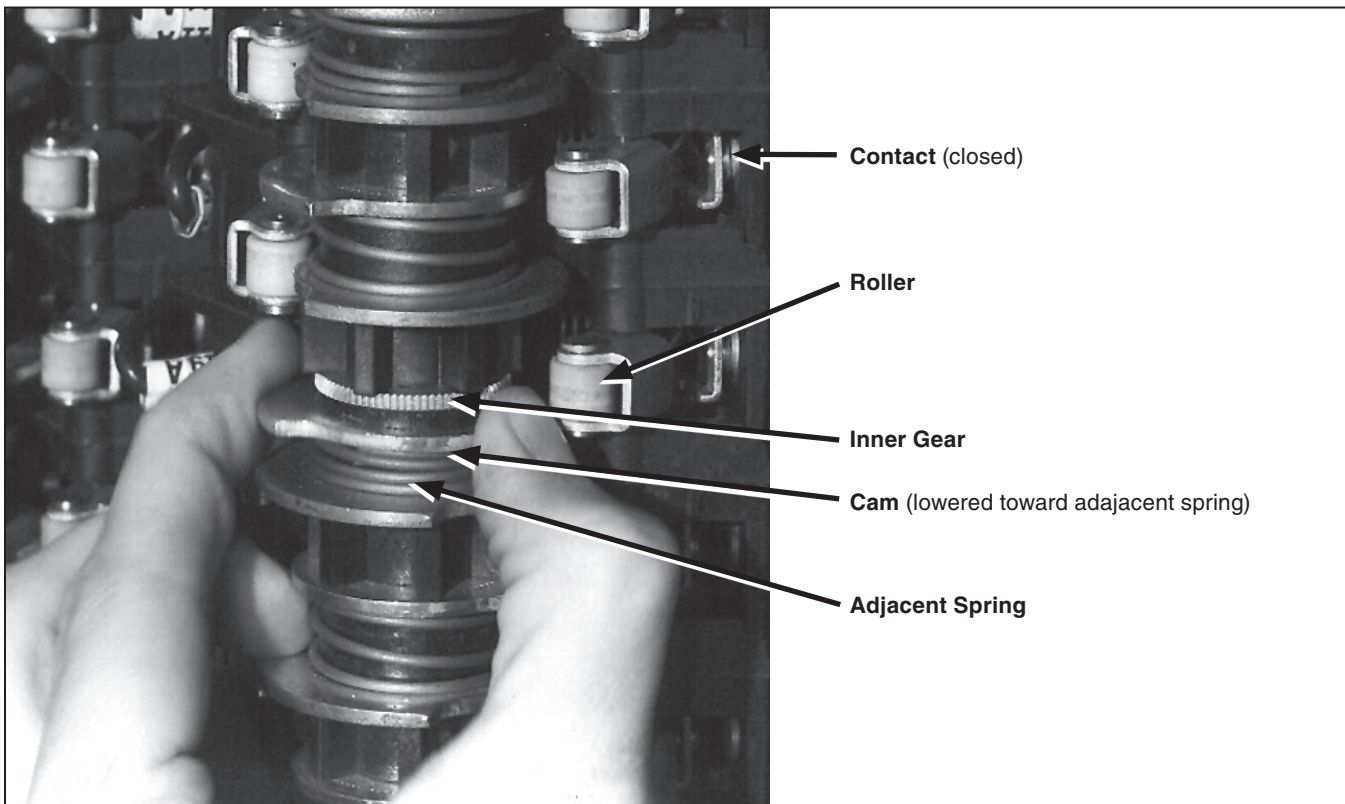

Figure 2. Adjusting cams on the auxiliary switch.
- (a) Raise (or lower) the cam toward its adjacent spring until the cam is separated from the teeth of the inner gear. See Figure 2.